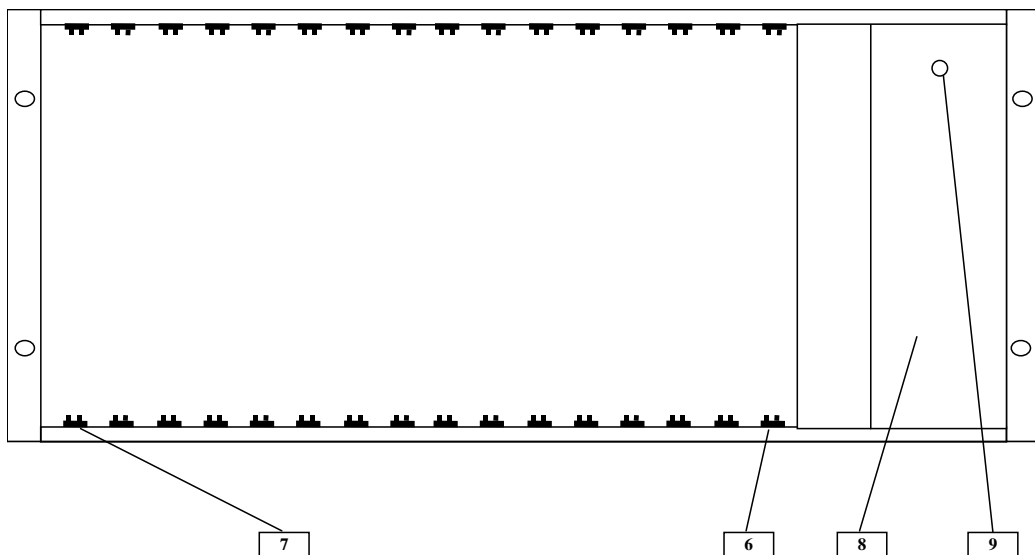

Figure 70: AMS 16 rack – front view
The CXR 2885P rackmount modem card front panel includes (see Figure 70) :
The rack front view include (see Figure 70) :
- The power indicator of the rack (see Figure 70) comes on.
- The power indicator (see Figure 70) goes out.